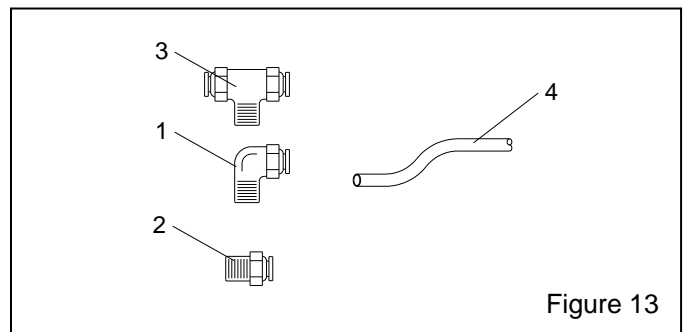

Figure 13
10.4 Tube Lock Fittings and Tubing, Figure 13